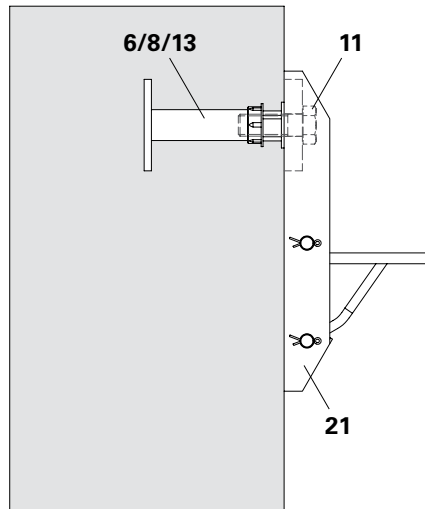

Fig. A2.28a
1. Place the Folding Bracket 25 (21) on the anchor position and vertically align.
2. Firmly attach the Folding Bracket 25 (21) to the Anchor (6/8/13) using bolt ISO 4014 M24 x 70-10.9 (11).
- (Fig. A2.28a + A2.28b)